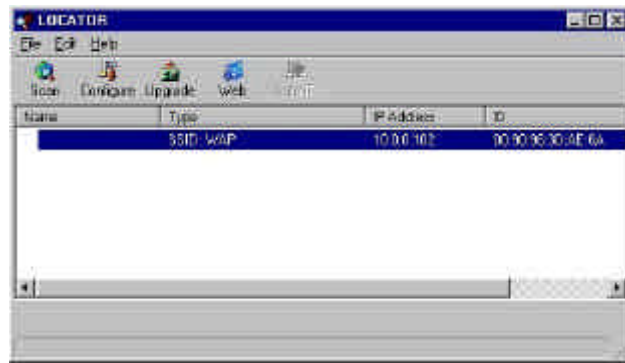

Figure 4.7 The Device IP Locator Window
3. Open the Device IP Locator. The Device IP Locator Window opens (Figure 4.7).